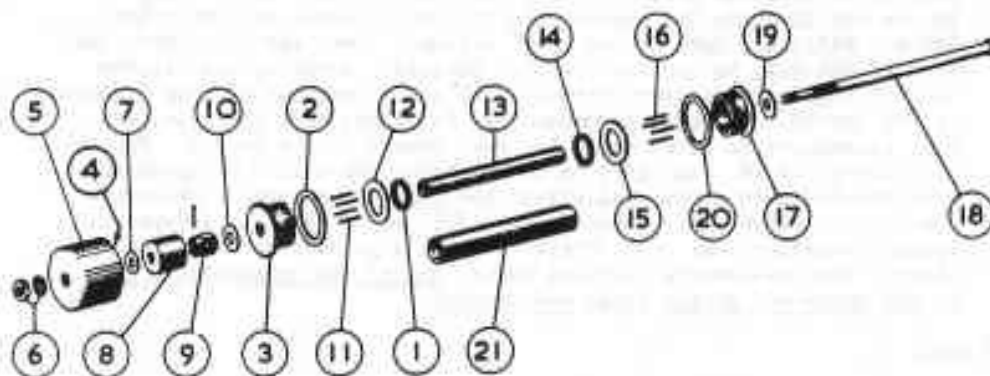

FIG. H17. YOKE LOWER BEARING.
- (i) Remove the nut and spring washer (6, Fig. H17), the cover (5) and the plain washer (7) from the bolt (18). Disconnect the coiled oil pipe (4) (inside cover) from the three-way junction on the torque arm and elbow connection fitted to the front of the yoke. Remove the clip from the yoke, then pipe and distance piece (8).
- (ii) Remove the split pin, castellated nut (9), and aluminium washer (10). Remove the two clamping bolts from the lower end of yoke. Tap out bolt (18). Remove roller housing (3), together with the adjusting washer (2). Remove bearing pin and distance piece (21 and 13) which will remove with it the rear roller housing and adjusting washer (17 and 20) from the lower triangle lever. Collect the needle rollers, remove roller retaining washer (15 and 16) and felt washer (1 and 14) from the lever.
- (i) Remove the existing adjusting washers (2 and 20, Fig. H17). Fit the roller housing (3), the bolt (18), the distance piece (8), and the roller housing (3), to the lower triangle lever and tighten up the nut (9). Do not connect the yoke to the lower bearing (triangle lever).
- (iii) Fit the bearing pin (21) to the lever and yoke. Place the felt washers (1 and 14) and the roller retaining washers (12 and 15) in position in the lever with chamfered side of washers towards the felt washers. Fit the distance piece. Place the adjusting washers selected on the roller housings with chamfered side against flange. Smear the inside of the roller housings with grease, using the minimum amount to hold needle rollers in position. Fit the needle rollers in each housing. Ensure that the oil holes in the housings are not blocked with grease. Oil the rollers and fit the assemblies into the lever. Fit the bolt (18), using new aluminium washers (10 and 19), tighten up nut (9) and lock.
- (iv) Centralise the yoke in the fork of the lower triangle lever as far as the two slots in the bearing pin (21) will allow, and refit the bolts. Refit the bolt to the upper triangle lever and yoke, with the head of the bolt to the front of the chassis. Screw up castellated nut and temporarily secure with a split pin. This nut must be tightened up and locked when front suspension is in normal ride position, i.e. with passengers in front seats and road wheels on the ground. Fit the distance piece (8, Fig. H17) on to the bolt, the coiled oil pipe (4) over the distance piece, and attach the pipe to the yoke. Reconnect the pipe to elbow. Fit plain washer (10), cover (5), and secure with spring washer and nut (6). Check that oil pipe does not foul the cover. With passengers in front seats, tighten the castellated nut at the upper end of the yokes and secure.